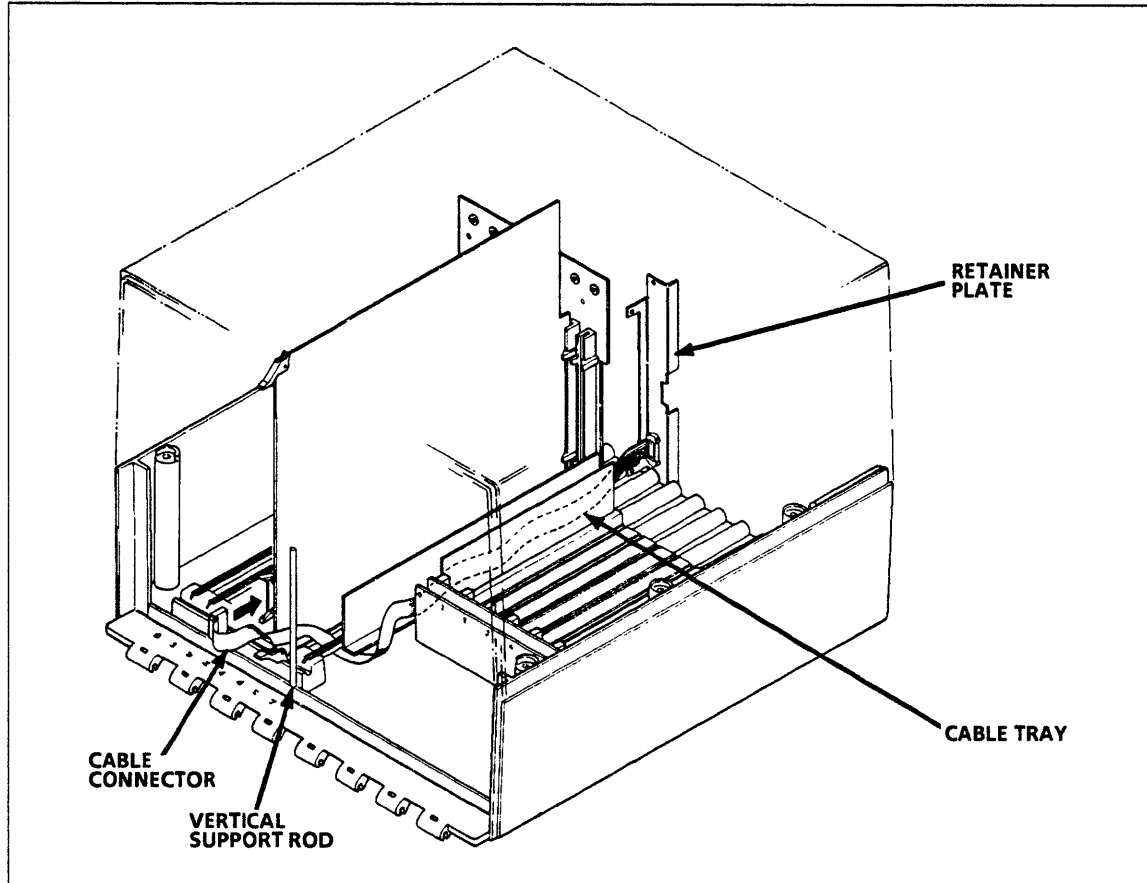

Figure 3-47. ESCI Cable Routing
6. Route ESCI cable from back of cabinet, through cable tray, to the front of the cabinet (figure 3-47).